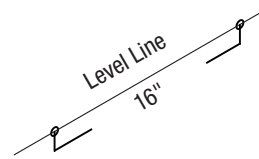

Figure 2
STEP 2: Draw a line on the wall, using the level, in order to determine where the screw holes will be located. The screws should be installed approximately 16" apart, as shown in **Figure 2**.